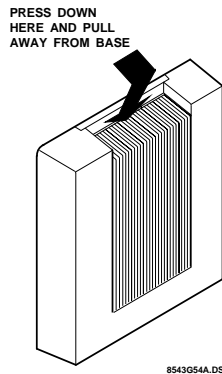

Figure 2. Removing the Cover
2. Remove the cover and set it aside (Figure 2).
2. Remove the module cover and set it aside (Figure 2).
3. Remove the module cover and set it aside (Figure 2).